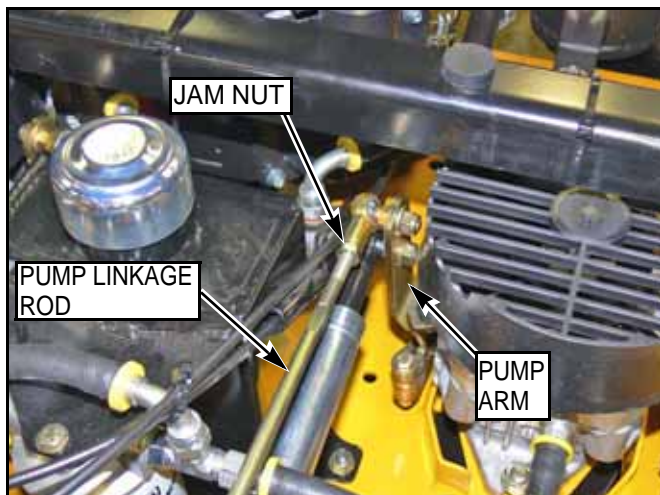

FIG. 49
Fine adjustment to the unit's steering is made with the adjustable pump linkage rods located between the control lever and pump arms "FIG. 49".
4. If wheel(s) are rotating forward, loosen the jam nuts on the pump linkage rods and rotate the rod to lengthen the steering control linkage until the wheel(s) come to a stop "FIG. 49". Repeat for the opposite side if necessary.
5. If wheel(s) are rotating in reverse then loosen the jam nuts on the pump linkage rods and rotate the rod to shorten the steering control linkage until the wheel(s) come to a stop "FIG. 49". Repeat for the opposite side if necessary.